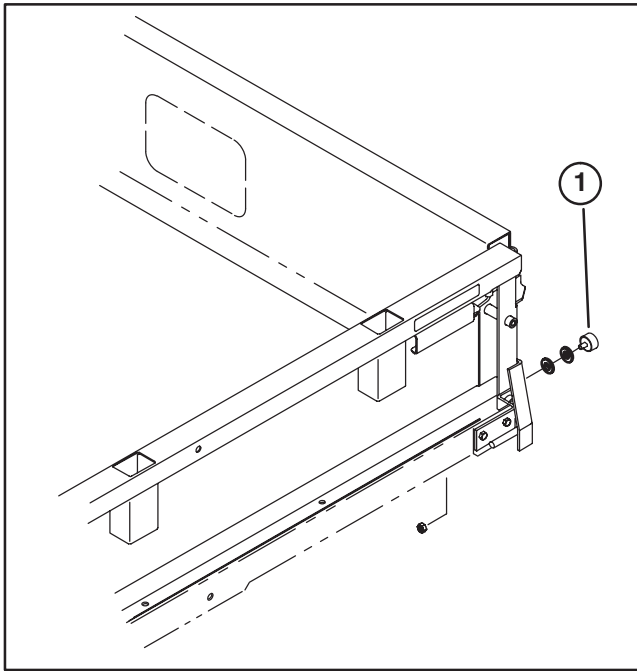

Figure 10
19. Mount a rubber bumper and (2) washers to each hole in rear of bed with a Keps nut (Fig. 10). Washers to be positioned between bumper and rear of bed.